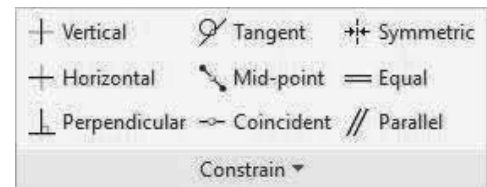

Figure 3-53 Constraint Tools
Step 10: If any 's are missing from your sketch, they can be added using the **constraint** tools found on top of the screen (Figure 3-53). If there are extra L's or other symbols, they can be erased by *selecting* them with the LMB, then pressing the <Delete> key.